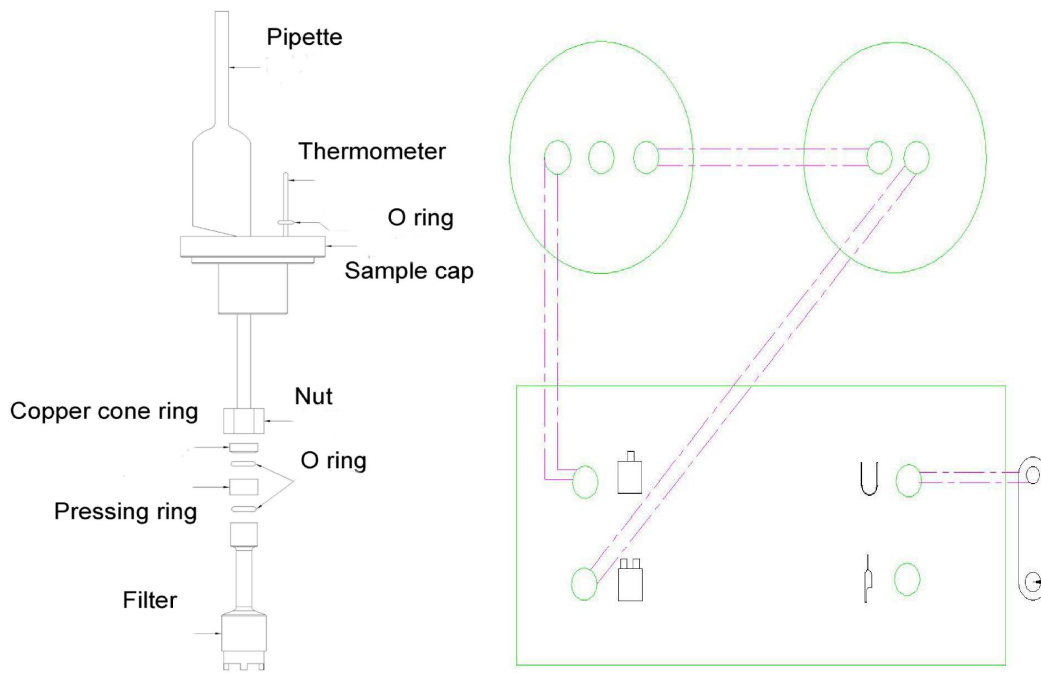

Figure 1 Figure 2
6. Install the components according to the following diagram, Figure 1 (test component installation diagram) and Figure 2 (vacuum source connection diagram).
1. Install the thermometer, pipette, filter according to the schematic diagram in Figure 1, and place it in a test cup containing 45mL of sample, making the thermometer vertical. The bottom of the thermometer should be 1.3-1.7mm away from the bottom of the test cup, and the filter should also be placed vertically and exactly at the bottom of the test cup. Then, place it in a hot water bath to reach a temperature of $30\text{ }^{\circ}\text{C} \pm 5\text{ }^{\circ}\text{C}$. Open the plug of the sleeve opening, Place the prepared test cup vertically into a copper sleeve placed in a pre cooled cold bath to a predetermined temperature. (The positioning ring should be placed inside the copper sleeve);